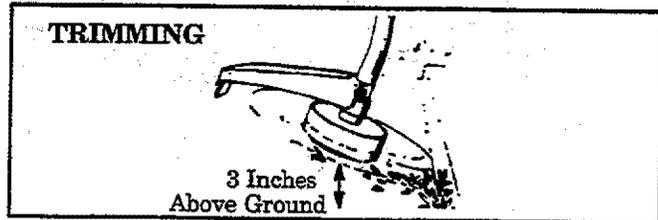

Figure 12
1. **TRIMMING** - Figure 12 . Hold the bottom of the trimmer head about 3 inches above the ground and at an angle. Allow only the tip of the line to make contact. Do not force the trimmer line into the work area.